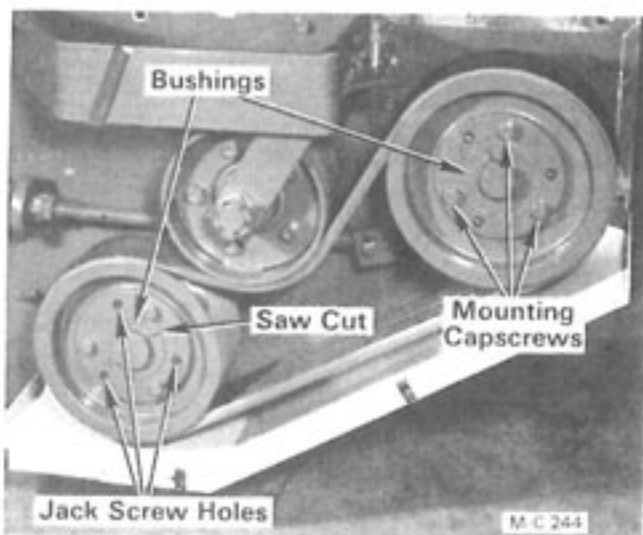

Figure 35
3. Remove the three mounting capscrews, see Figure 35. Thread the capscrews into the three jack screw holes in the pulley. Tighten the three capscrews progressively and evenly until the pulley is loose on the bushing.